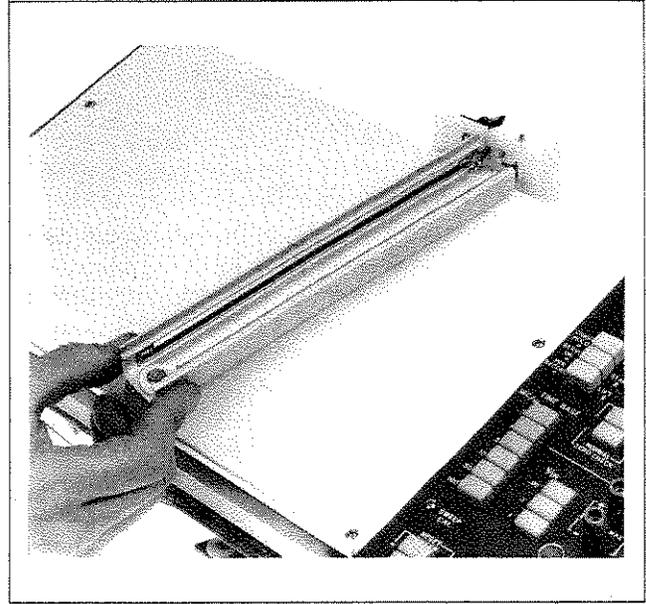

Figure 8-7. Y-Axis Potentiometer Removal
- h. Ease potentiometer assembly from under slider rod/carriage assembly. See Figure 8-7.